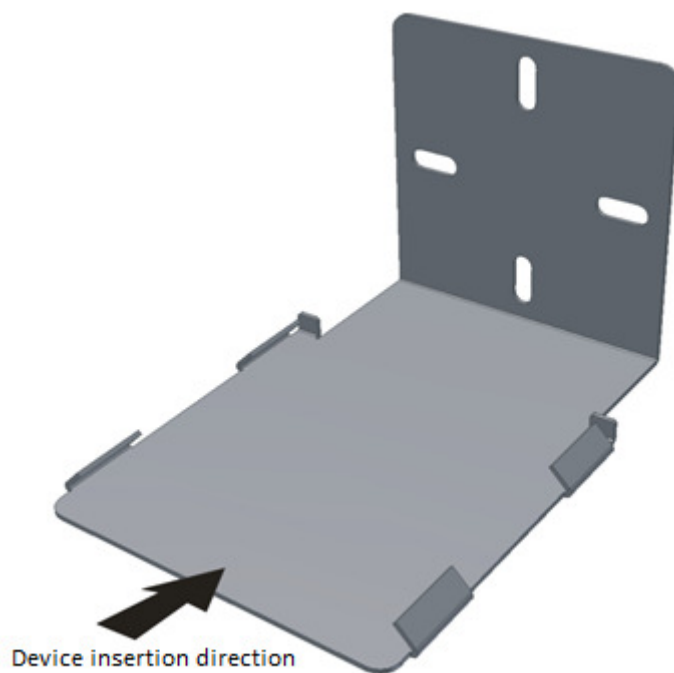

Fig. 7 – Universal mounting bracket
The device is pre-arranged for mounting to a pole or a wall using a universal mounting plate - see Fig. 7
- Fix the plate of Fig. 7 to the pole using a strap. The plate is suitable for installation on vertical and horizontal pipes.
- Let the device base slide on the plate in the direction indicated by the arrow in Fig. 7
Fasten the plate to the wall using dowels. Let the device base slide on the plate in the direction indicated by the arrow in Fig. 7